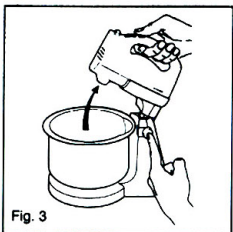

Fig. 3
**To fit the beaters or kneaders with the mixer in position, ensure that the speed control is in the off (0) position. Push in the release/locking button and swing the mixer upwards on the stand (Fig. 3). Insert the beaters or kneaders into the mixer ensuring that they are position into the correct outlets. The beater fitted with the plastic drive button must fit into the outlet nearest the edge of the bowl and likewise the kneader with the larger metal disc must also be inserted into the outlet.**